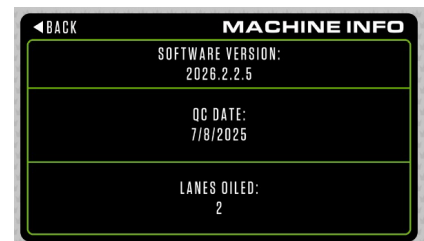

Figure 10 - Machine Info Screen
- **Reset Cloth:** Resets *Present Unwind Time* (800 ms) and *# of Lanes on Roll* (380) after replacing duster cloth.
3.2.1.6 Machine Info Screen: (Figure 10)